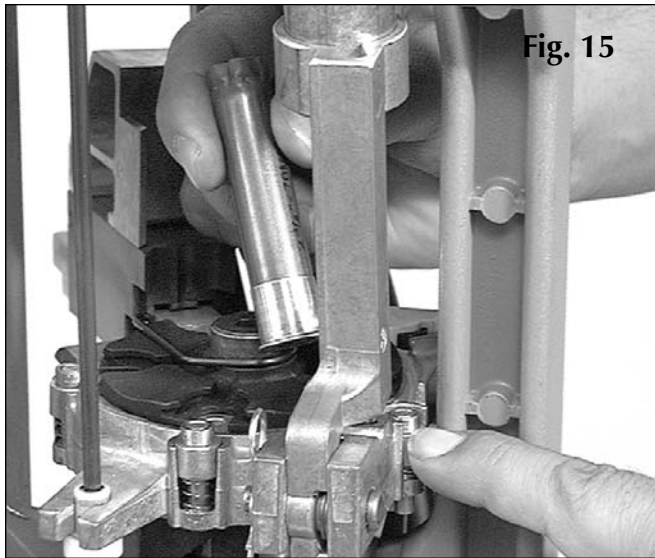

Fig. 15
9. Move the roller handle down and then back up to its rest position. Remove the hull from the shellplate by pressing down on the locator button. **Fig. 15** Pour the powder back into the clear powder hopper.